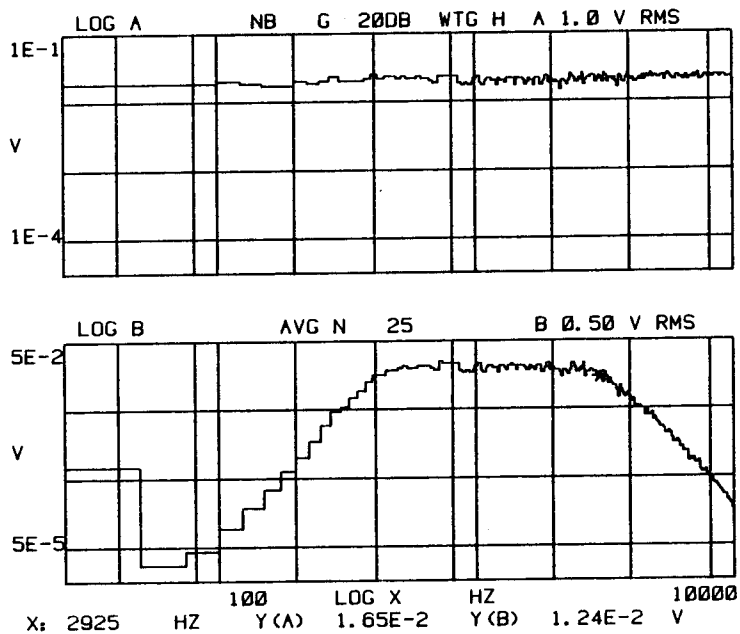

Figure 4-11. Display SPECT A & B: Y Units V, Y GAIN +20 dB, LOG X.
- a. Press the CURSOR group, Y units, V touch control. On the DISPLAY group Y touch controls, select +20 dB using the GAIN UP/DOWN touch controls. On the DISPLAY group X touch controls, press LOG. Compare the display with Figure 4-11.